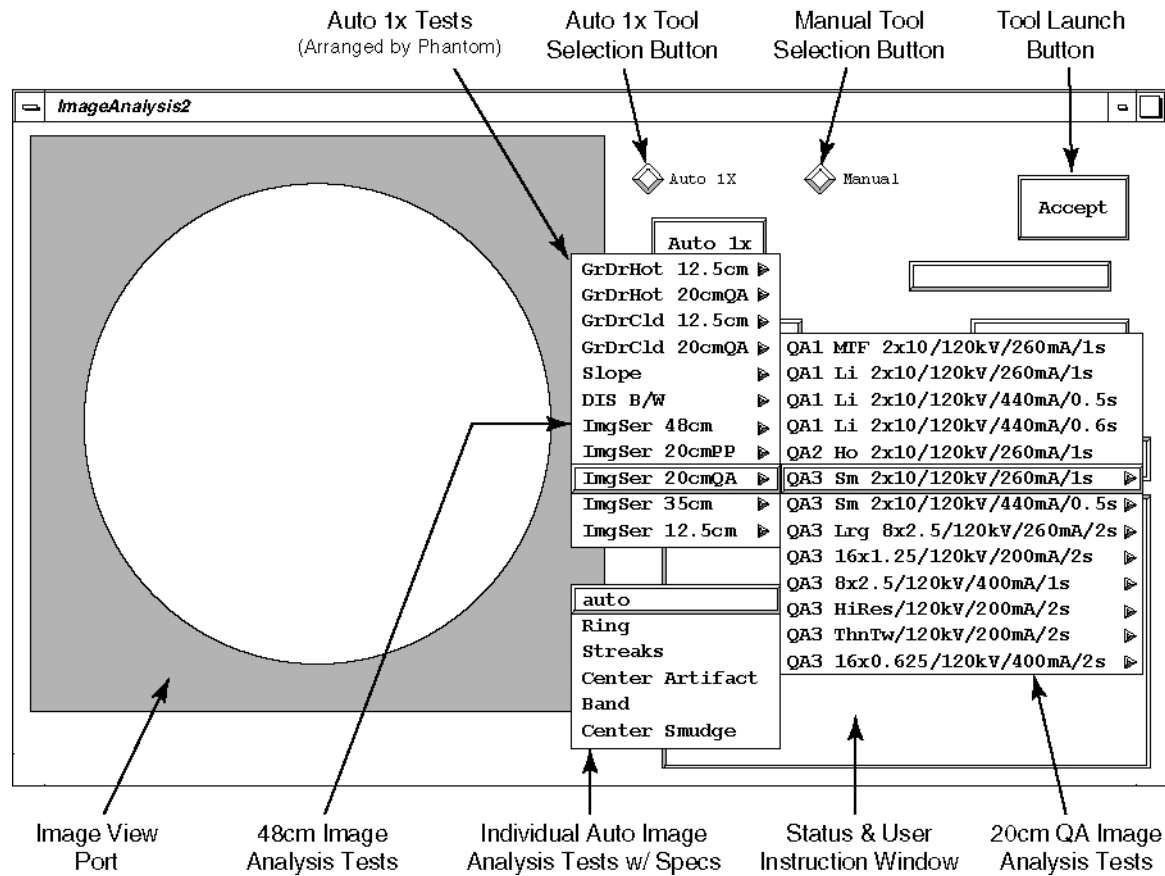

Figure 6-2 Image Analysis Tool User Interface - Auto 1x Test Pull Down Menu
- b.) On the Image Analysis Tool window, click on the AUTO 1X diamond shaped button. (See Figure 6-2, on page 219.)